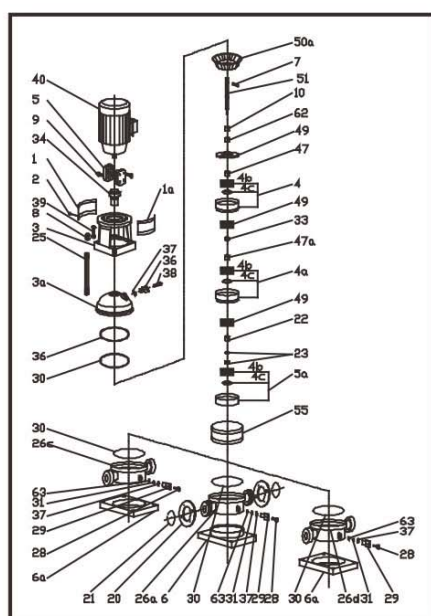

Figure1-A VM2、4、6-080701
- The pump comprises of motor, pump head, guide vane, impeller, pressure-proof cylinder, intake and discharge section, pump shaft, mechanical seal and other main components. See Figure 1;